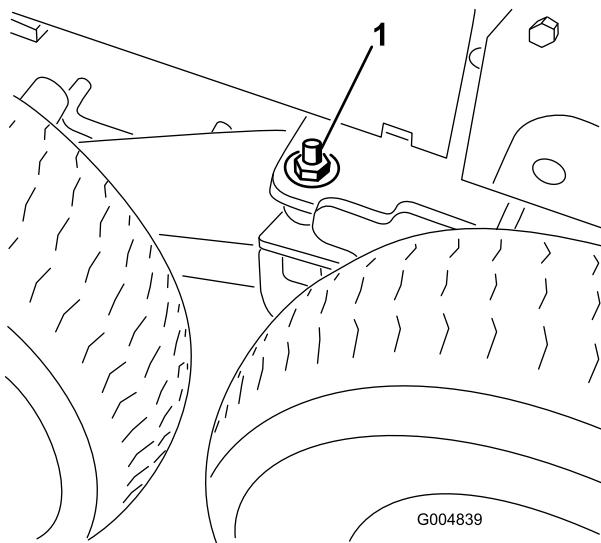

Figure 122
35. Remove the flat washer (1/2 inch) and nut (1/2 inch) installed on the stud on the bogie pivot (Figure 122).